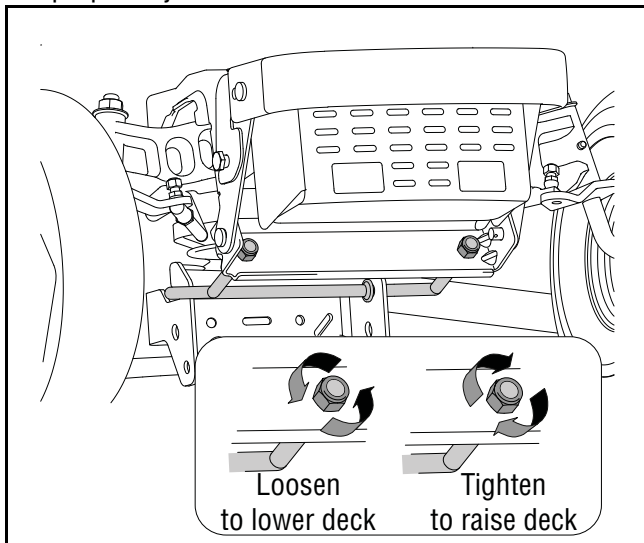

Figure 14
6. Locate the two lock nuts on the front side of the stabilizer bracket. See Figure 14. Tighten the lock nuts to raise the front of the deck; loosen the locknuts to lower the front of the deck.